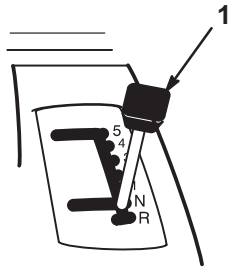

Figure 7
3. Shift the ground speed lever into Neutral (Fig. 7).